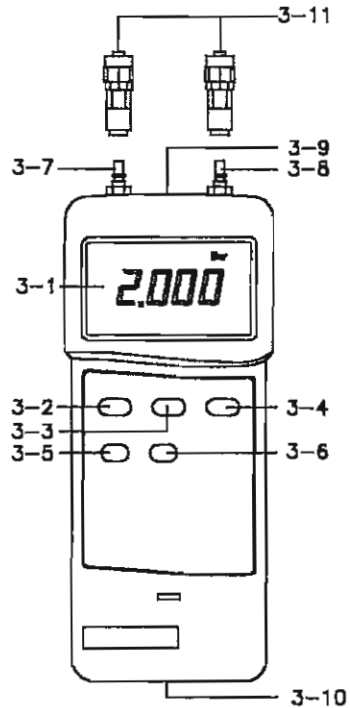

Fig. 1
- 1) Power on the meter by pressing the " Power Off/On Button " (3-2, Fig. 1).
- 2) Select the desired temperature units (mbar, psi, Kg/cm², mm Hg, inch Hg, meter H₂O, inch H₂O, Atmosphere) by pushing the " Unit Button " (3-6, Fig. 1).
Adjust the display reading to zero value by pushing the " Zero Button " (3-4, Fig. 1)
- 4) Install the measuring pipe to " Plug/quick coupler " (3-11, Fig. 1).
Connecting the pipe along the " Plug " (3-11, Fig. 1) to
- a. " P1 input socket " (3-7, Fig. 1) only
- b. " P2 input socket " (3-8, Fig. 1) only
* During the measurement, pressing the " Hold Button " (3-3, Fig. 1) will freeze the measured value & the LCD will show " HOLD " symbol.
- * The DATA RECORD function displays the maximum and minimum readings. To start the DATA RECORD function, press the " MAX./MIN. Button " (3-5, Fig. 1) once. " REC " symbol will appear on the LCD display.
- (a) Press the " MAX./MIN. Button " (3-5, Fig. 1) once, the " Max " symbol along with the maximum value will appear on the display.
To de-activate this feature, Select the memory record function during measurement, by pressing the " MAX./MIN. Button " (3-5, Fig. 1).
The instrument features an RS232 output via 3.5 mm Terminal (3-9, Fig. 1).
- 2) Slide the Battery Cover (3-10, Fig. 1) away from the instrument and remove the battery.